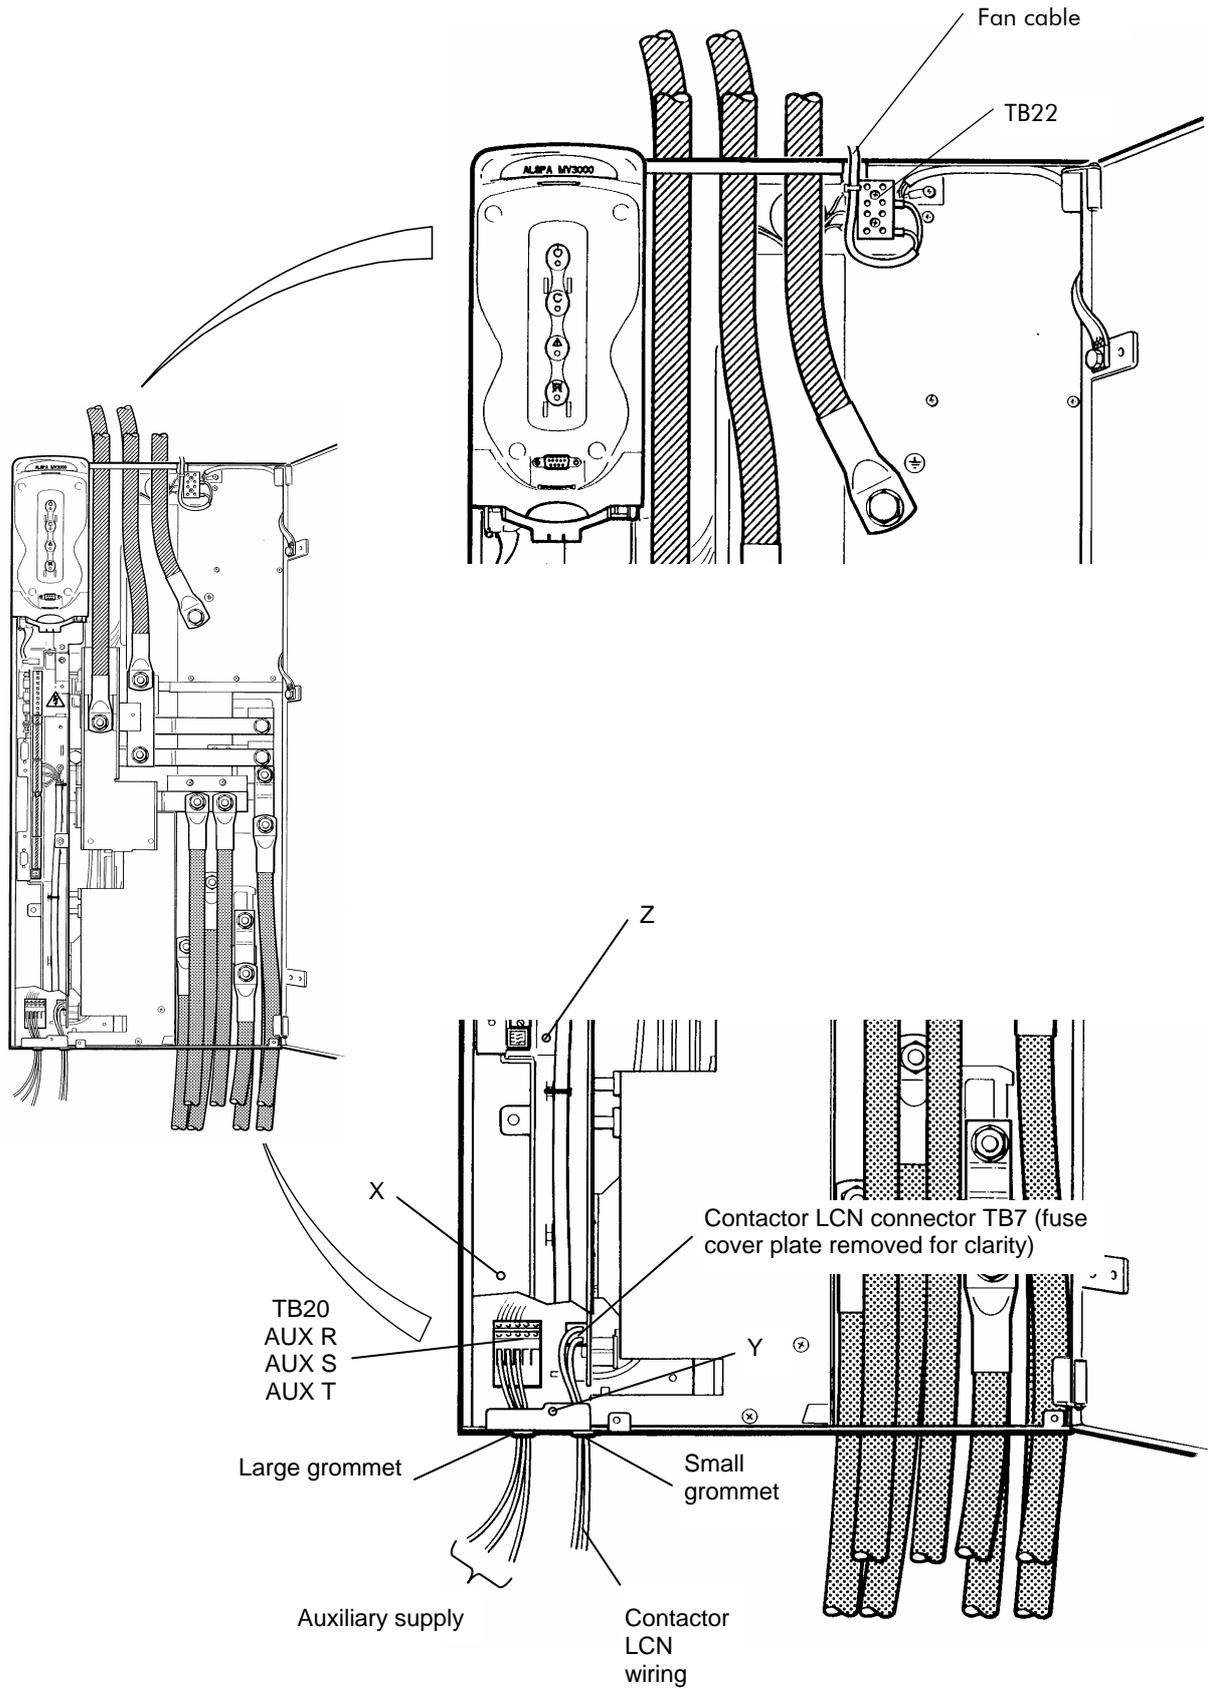

Figure 3-12 Ancillary wiring for frame size 6
3.13.2 Ancillary Cables (See Figure 3-12)